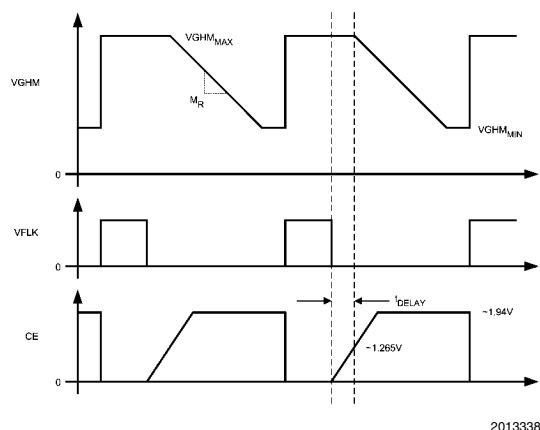
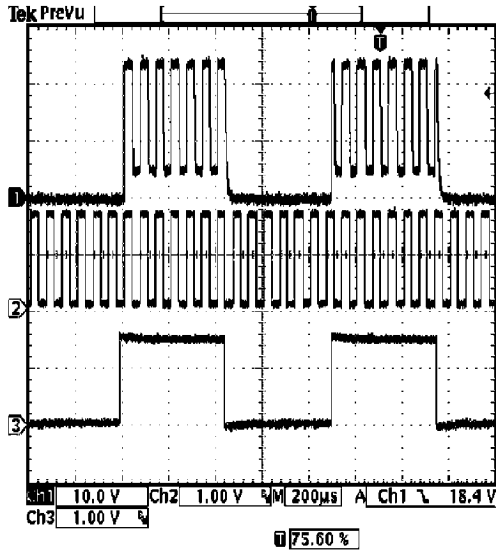
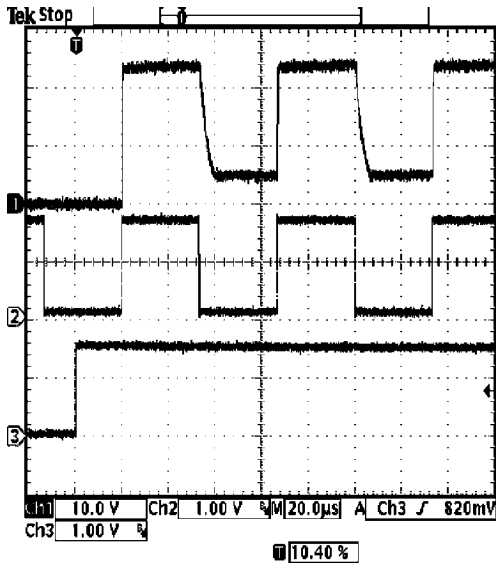

FIGURE 2.
FIGURE 3.
FIGURE 4.
The Gate Pulse Modulation (GPM) block is designed to provide a modulated voltage to the gate driver circuitry of a TFT LCD display. Operation is best understood by referring to the GPM block diagram in the *Block Diagrams* section, the drawing in *Figure 2* and the transient waveforms in *Figure 3* and *Figure 4*.
When VDPM is high, typical waveforms for the GPM block can be seen in *Figure 2*. The pin VGH is typically driven by a 2x or 3x charge pump. In most cases, the 2x or 3x charge pump is a discrete solution driven from the SW pin and the output of the boost switching regulator. When VFLK is high, the PMOS switch P2 is turned on and the PMOS switch P3 is turned off. With P2 on, the VGHM pin is pulled to the same voltage applied to the VGH pin. This provides a high gate drive voltage, $VGHM_{MAX}$, and can source current to the gate drive circuitry. When VFLK is high, NMOS switch N3 is on which discharges the capacitor CE.
When the voltage on CE reaches about $1.265V$ and the VFLK signal is low, the PMOS switch P2 will turn off and the PMOS switch P3 will turn on connecting resistor R3 to the VGHM pin through P3. This will discharge the voltage at VGHM at some rate determined by R3 creating a slope, M_R , as shown in *Figure 2*. The VGHM pin is no longer a current source, it is now sinking current from the gate drive circuitry.
Figure 3 and Figure 4 give typical transient waveforms for the GPM block. Waveform (1) is the VGHM pin, (2) is the VFLK and (3) is the VDPM. The output of the boost switching regulator is operating at 8.5V and there is a 3x discrete charge pump (~23.5V) supplying the VGH pin. In Figure 3 and Figure 4, the VGHM pin is driving a purely capacitive load, 4.7nF. The value of resistor R1 is 15kohm, R2 is 1.1kΩ and R3 is 750Ω. In both transient plots, there is no C_E delay capacitor.